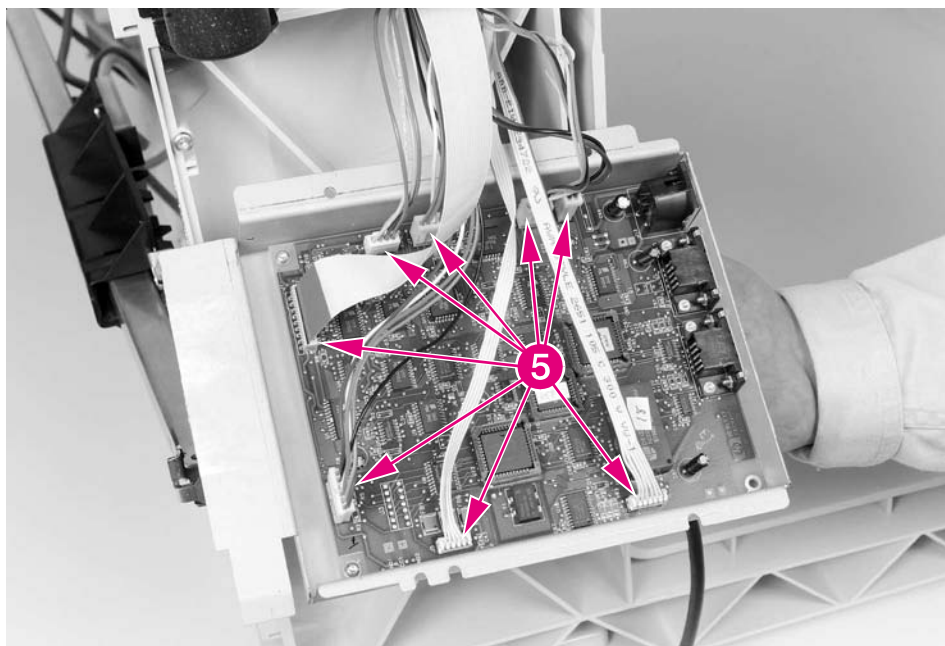

Figure 6-166 8-bin Mailbox Controller PCA (2 of 2)
- 9 Disconnect the 8 cables from the Controller PCA (Figure 6-166, callout 5).
- 2 Release the Controller PCA from the 8-bin Mailbox frame, but leave the wire cables connected to the Controller PCA (see Figure 6-166).